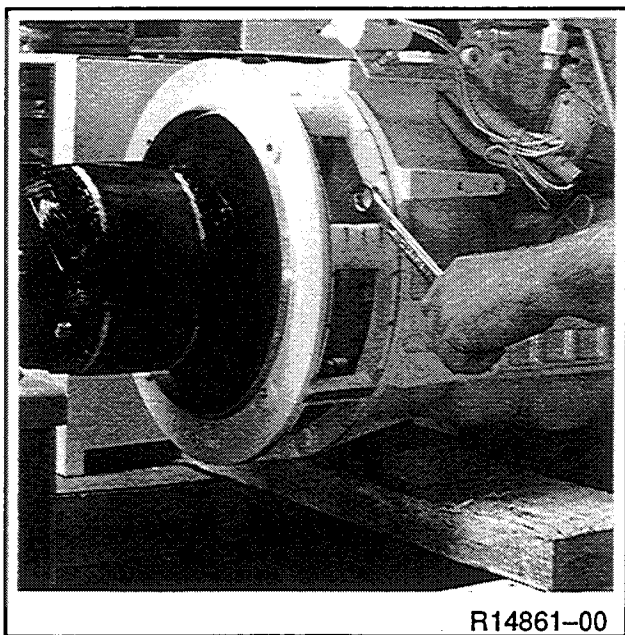

Figure 9-16. Removing Generator Adapter
16. Remove four screws and flat washers attaching generator adapter to flywheel housing. See Figure 9-16.